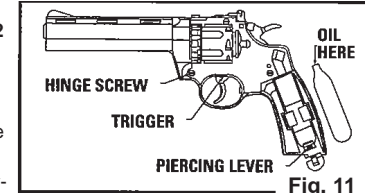

Fig. 11
- Your airgun will maintain proper function longer if you oil it every 250 shots by placing one drop of oil on the piercing lever, trigger and hinge screw. (Fig. 11)